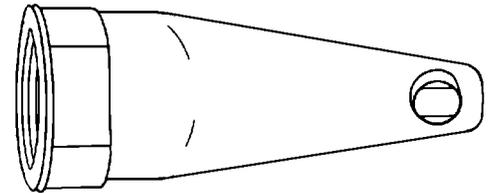

Figure 27-14. FLU-8B/P Sensor Plug Cap
1. Remove damaged or defective sensor plug cap using a standard 3/4-inch wrench. See figure 27-14.